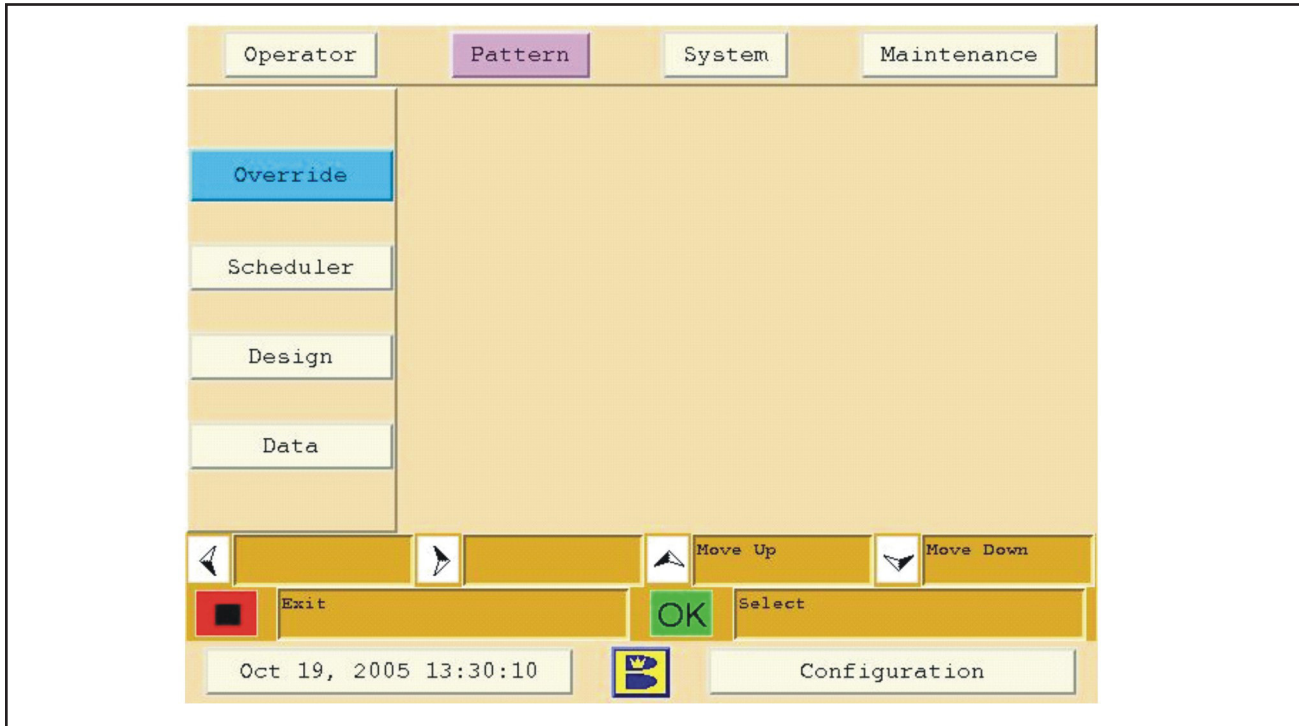

Figure 4-4. Pattern Screen
1. Press the “Exit” button until you reach the main screen for that section –Operator, Pattern, System, or Maintenance (the active area of the screen will be blank and only the left menu bar will be visible). Refer to Figure 4-4.
The pattern screen lets you select, change, design, or override a lane conditioning pattern. The Authority22 comes pre-programmed with 10 conditioning patterns. You may use these patterns as your own, or use them as templates to create customized patterns – just find the pattern that’s closest to what you want and then adjust the zone lengths and oil volumes. You can return to the original default patterns at any time. Refer to Figure 4-4.